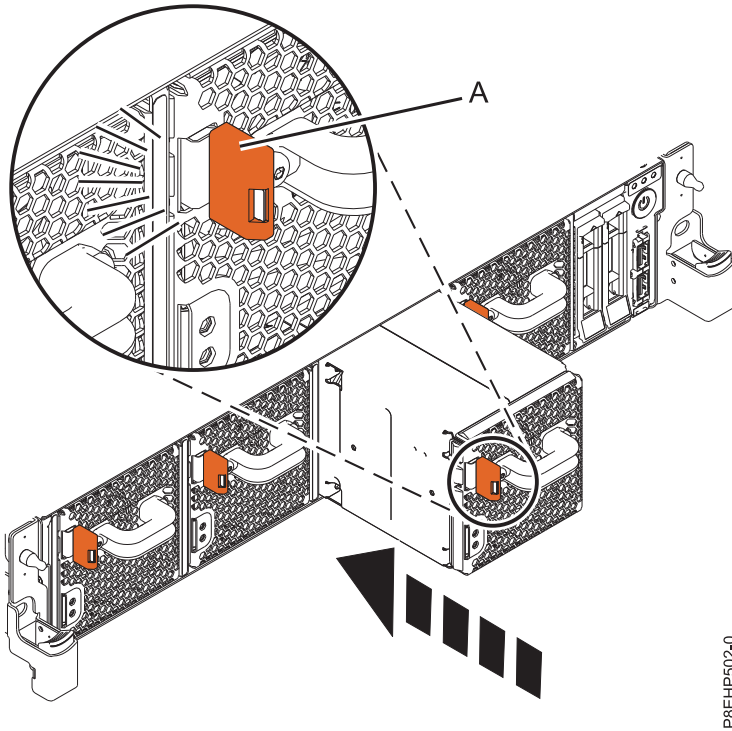

Figure 58. Replacing a fan in the system
2. Using your hand to support the bottom of the fan, align the fan (A) with the fan slot and slide it into the system until the terracotta tab (A) locks in place as shown in Figure 58 on page 48.